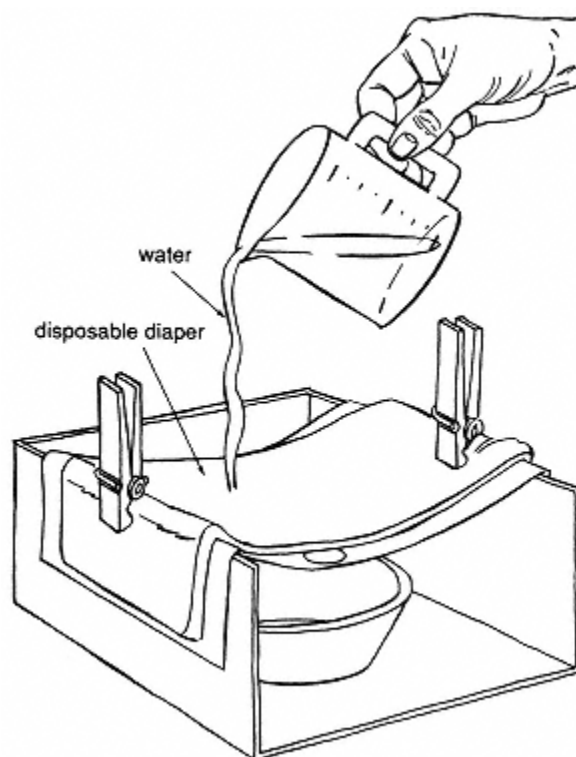

Figure 24.1
6. Slowly pour the water over the inside surface of the diaper from one end to the other (see Figure 24.1).